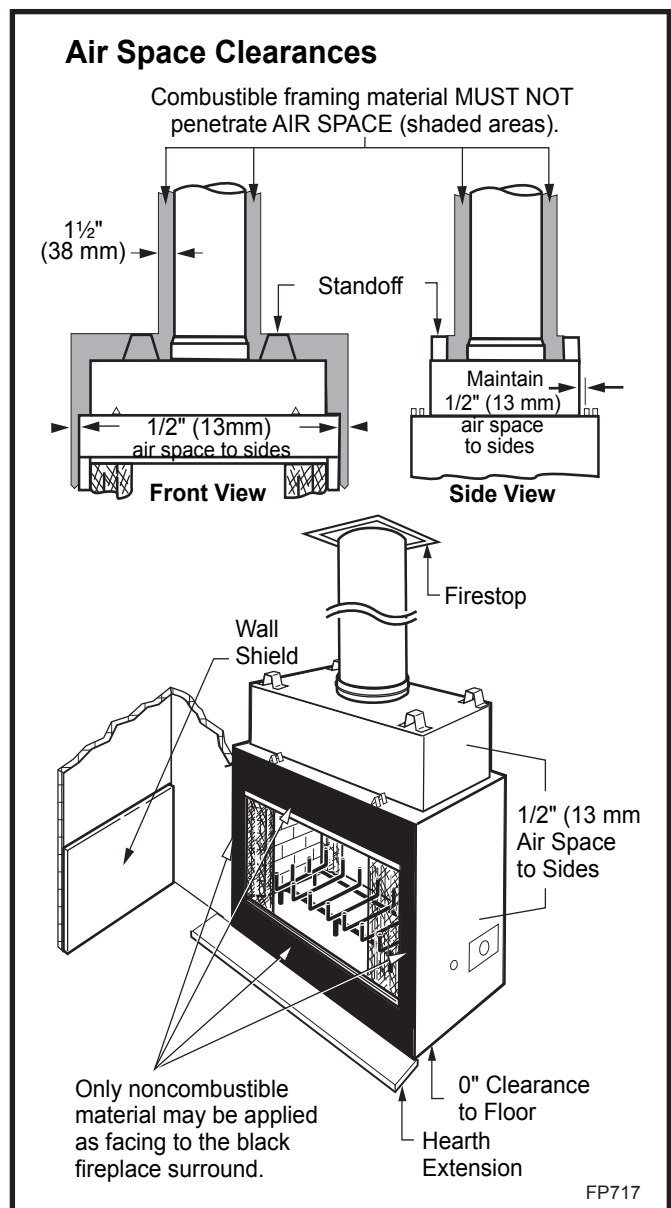

Fig. 20 Minimum clearances to combustibles.
There must be an air space (1½" (38 mm) with SK8 between outermost portion of chimney sections and any adjacent combustible surfaces. (Fig. 20) (Combustible surfaces include burnable materials such as: ceiling members, joists, flooring, combustible insulation and roof structures.)
CAUTION: All joints between the finished wall and the fireplace surround (top/sides) must be sealed with non-combustible material to prevent cold air leakage into the room. Only noncombustible material may be applied to the facing of the fireplace surround. (Black painted area) (Fig. 20)
NOTE: No side wall protection is required for fireplaces installed at 45° to two (2) side walls (corner installation). Adjacent combustible side walls that are within 16" (406 mm) of fireplace opening must be protected with an MHSC Wall Shield Model SP40 or a specifically built wall shield described in Figure 20 & 24.
All joints (top, bottom and sides) where wall or decorative facing material meets fireplace surround must be completely sealed with a noncombustible material. (Figs. 20 and 24)
The special wall shield design described in Figure 20 is an alternate method of adding protection to side walls and can be used in place of the SP40 with the same wall clearances specified for the SP40. Rt must =1.85 minimum.